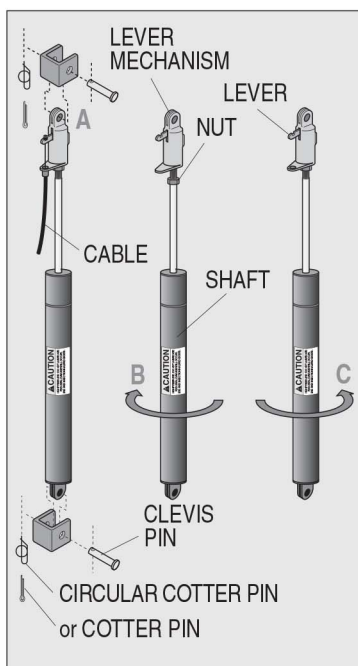

Figure 1
1. Remove CLEVIS and COTTER PINS. Remove CIRCULAR COTTER PINS by lifting up the wire that crosses over straight end of pin, see Figure 1. Save all PINS.
3. Remove hydraulic unit from machine, loosen NUT by backing it down ROD. Hold LEVER MECHANISM and twist SHAFT until there is free play in LEVER, as shown by "B" in Figure 1.